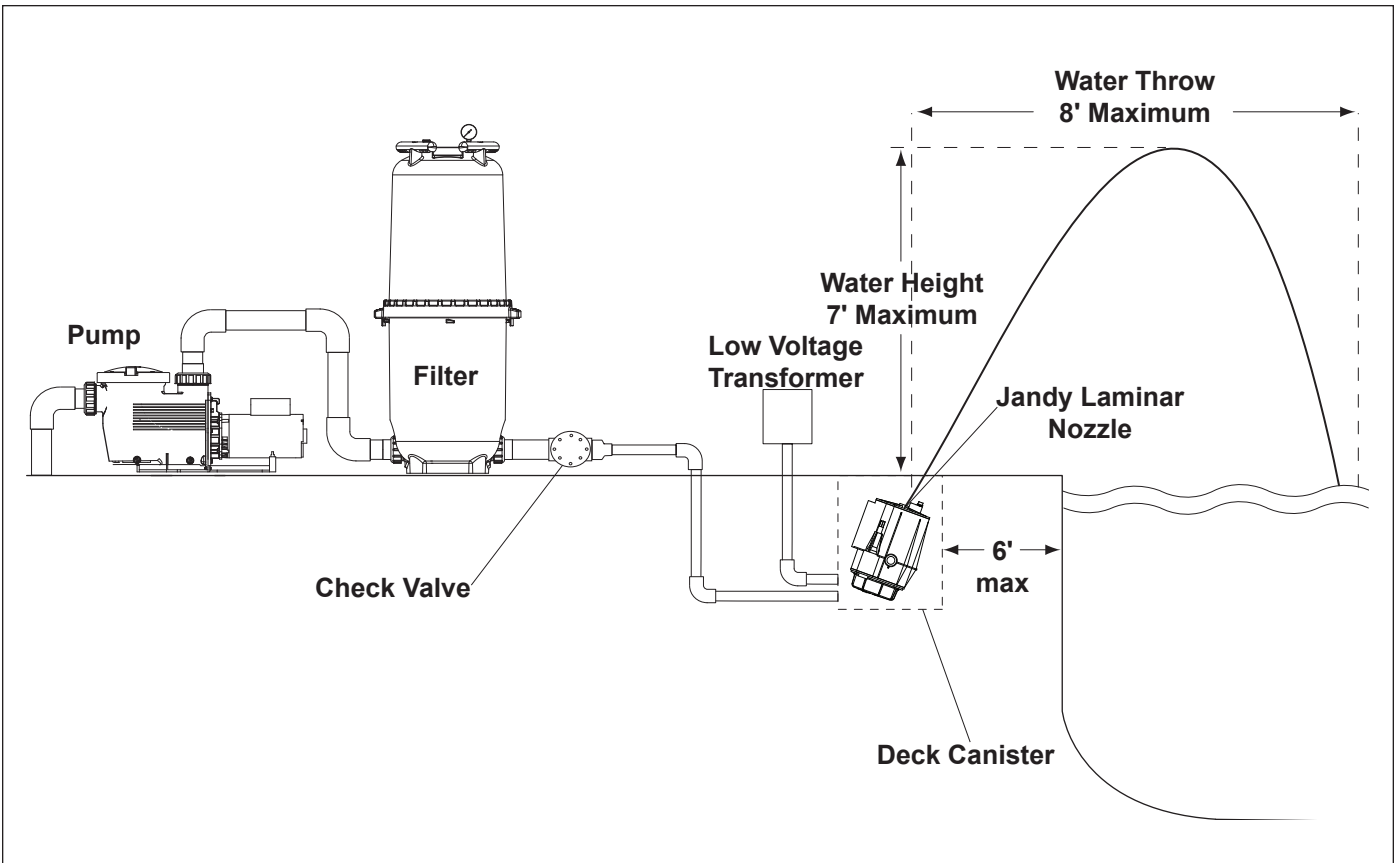
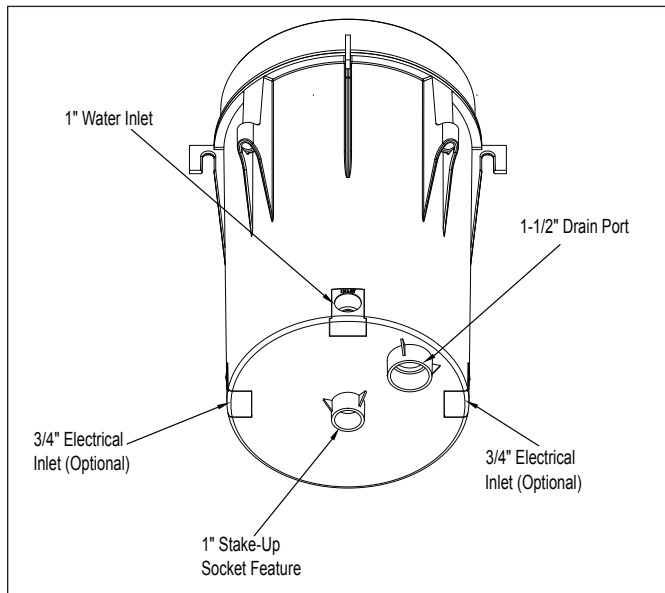

Figure 1. Basic Plumbing Diagram for Laminar Jet with Deck Canister
Figure 6. Deck Canister - Bottom View
Each laminar jet requires a 1½ to 2 inches PVC main feed line with 1 inch PVC entering the deck canister. A check valve is also required and should be placed as far from the deck canister as possible to minimize water turbulence. Refer to Figures 1 and 2, and Table 1.
4. Plumb the incoming filtered water supply to the 1 inch hub located on the side of the deck canister marked "Inlet" (see Figure 6). The filtered water supply must include a check valve (see Figures 1 and 2).
canister marked “Electrical” (see Figure 6). Refer to Section 5 for fiber optic installation.
5. Plumb the incoming, filtered water supply to the 1 inch hub located on the bottom of the deck canister marked “Inlet” (see Figure 6). The filtered water supply must include a check valve (see Figures 1 and 2).
NOTE The electrician must complete preparatory steps before the laminar jet with LED light is installed. See Figure 1.
1. Feed cord through conduit to low voltage transformer, leaving at least 4 feet of cord at the light fixture to coil into the deck canister. See Figure 1. The 4 feet of cord allows the light to be easily serviced.
3. Strip 6 inches of the outer cord jacket to expose the three (3) insulated wires. *Be careful not to damage the insulation on the three (3) inner wires.*
4. Install strain relief over cord jacket and connect all three (3) wires to the corresponding circuit wires in the low voltage transformer. Install the low voltage transformer cover.